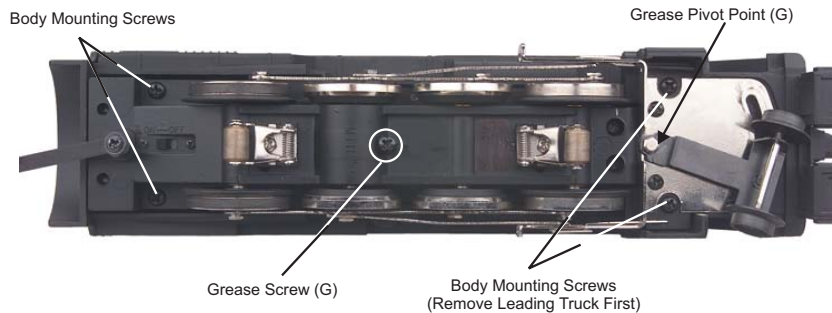
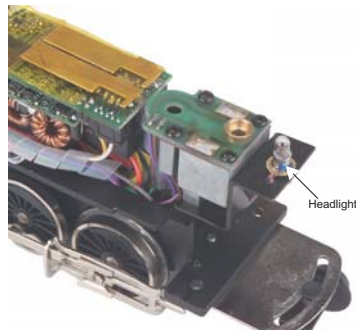

Figure 3. Greasing Points on the Engine and the Location of Body Mounting Screws
Figure 7. Replacing the Headlight
1. Unscrew the chassis screws as shown in Fig. 3 and remove the boiler.
Remove the locomotive boiler from its chassis as shown in Figure 3 on pg. 8. Once the body has been removed, rotate the headlight bulb counter-clockwise as seen in Figure 7 to remove.